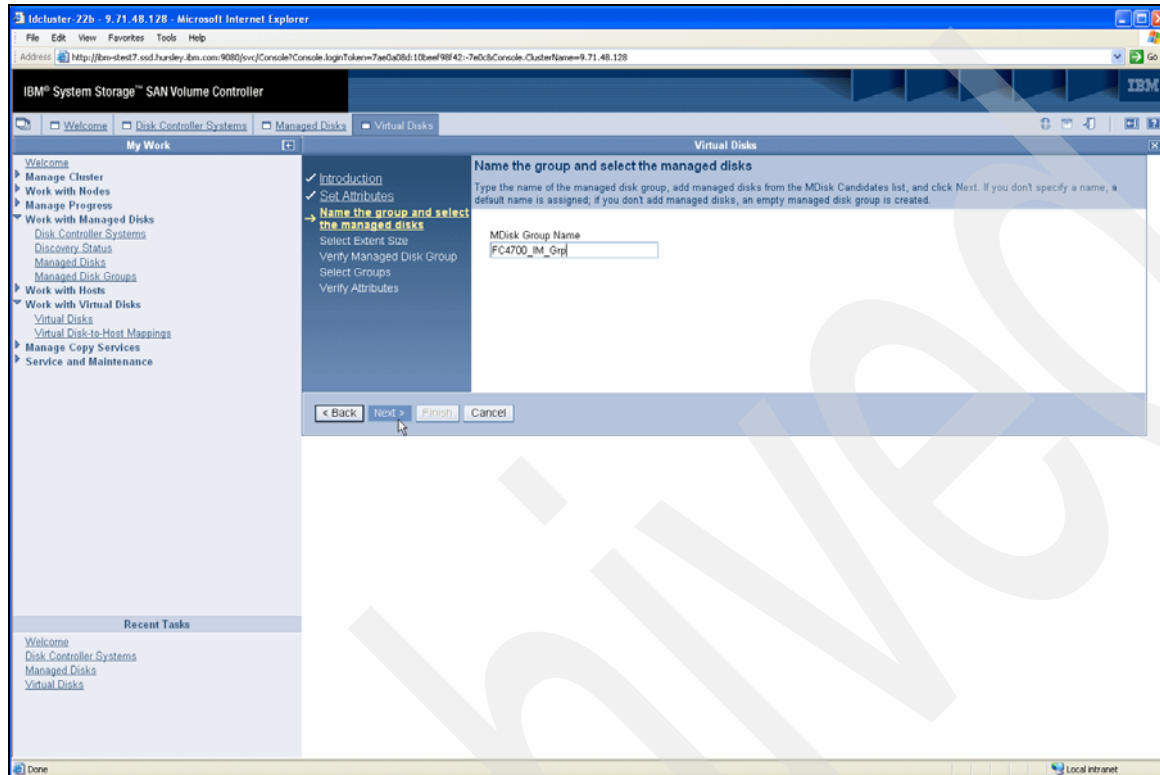

Figure 6-20 Create Image Mode VDisk name MDisk group
6. Figure 6-20 shows the next panel, where you must enter an MDisk group name. This panel will only appear if you checked the **Create an empty MDisk group box**. You should try to make the name memorable.